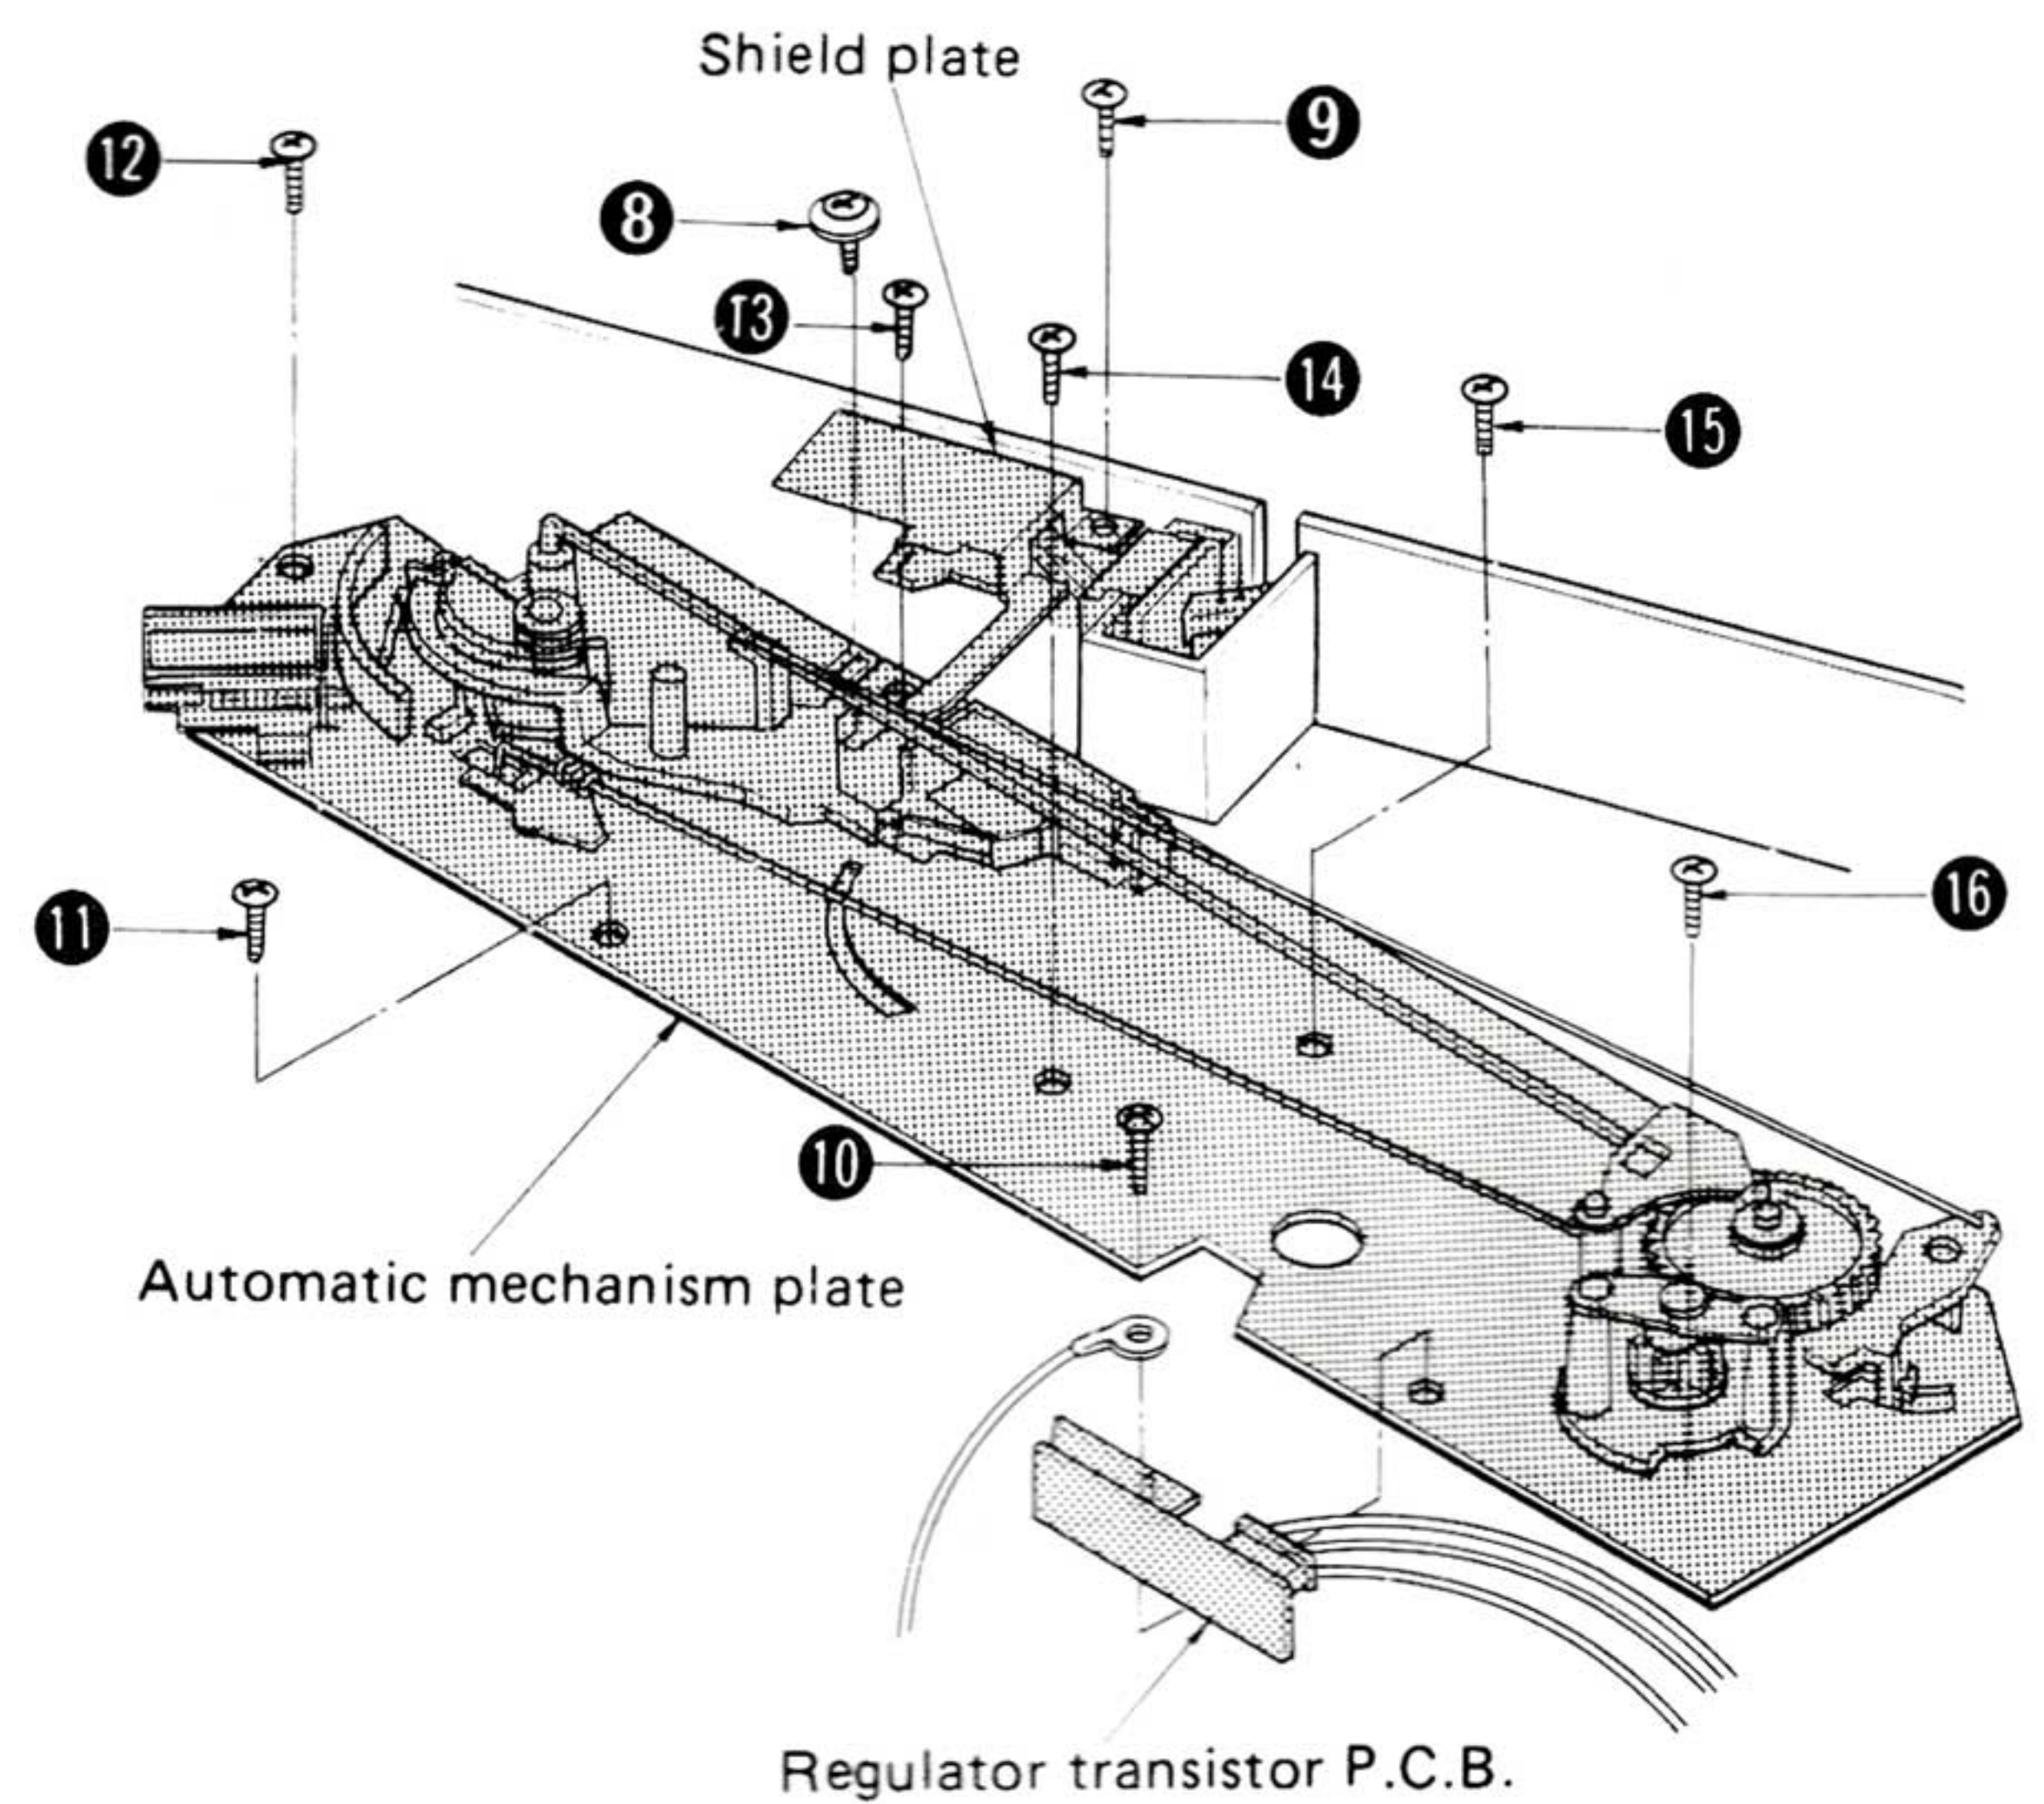

Fig. 2
5. Remove the shield plate setscrews ⑧ and ⑨. (See Fig. 2)
6. Remove the regulator transistor P.C.B. setscrew ⑩. (See Fig. 2)
7. Remove the automatic mechanism plate setscrews ⑪ ~ ⑯. Then, the automatic mechanism plate can be removed. (See Fig. 2)